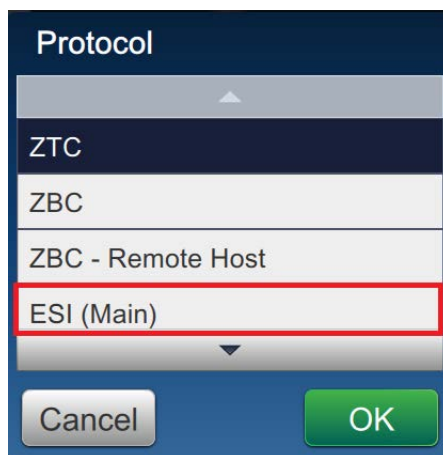

Figure 7-19: Protocol Screen
11. Touch the *Protocol* drop down list. The Protocol screen opens as shown in Figure 7-19.
12. Select *ESI (Main)* option from Protocol screen as shown in Figure 7-19. Touch the *OK* button to confirm the selection.